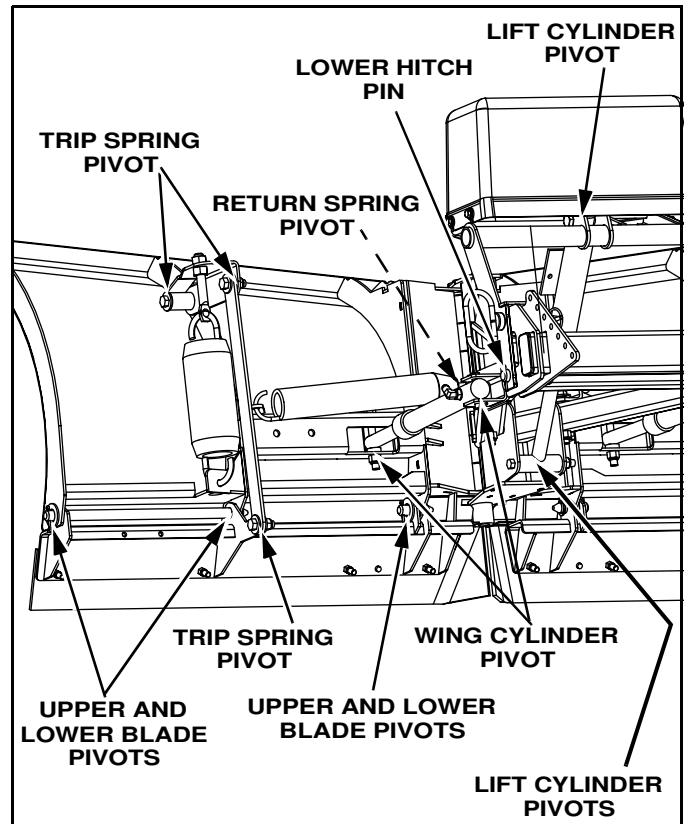

Figure 2-1
3. Apply a small amount of light oil to: Lower hitch pins, pivot pins between the upper and lower blade frame and pivot pins at lift and swing cylinders. Also lubricate trip spring and return spring pivot points. (See Figure 2-1)
4. Apply a small amount of light oil to: lower hitch pins, pivot pins between the upper and lower blade frame and pivot pins at lift and swing cylinders. Also lubricate trip spring and return spring mount pivots. (See Figure 2-1).